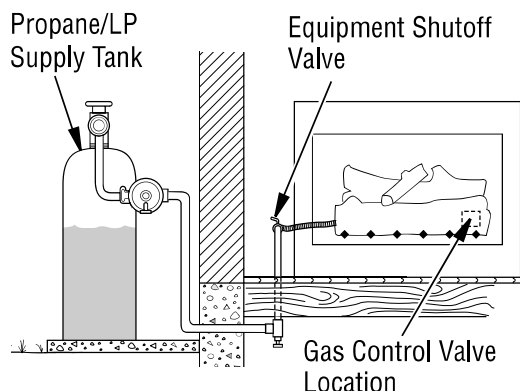

Figure 16 - Checking Gas Joints (Propane/LP Model Shown)
3. Check all joints from gas meter to equipment shutoff valve for natural gas or propane/LP supply to equipment shutoff valve for propane/LP (see **Figures 16 and 17, page 14**). Apply noncorrosive leak detection fluid to all joints. Bubbles forming show a leak.
4. Check all joints from equipment shutoff valve to gas control (see **Figures 16 and 17**). Apply noncorrosive leak detection fluid to all joints. Bubbles forming show a leak.